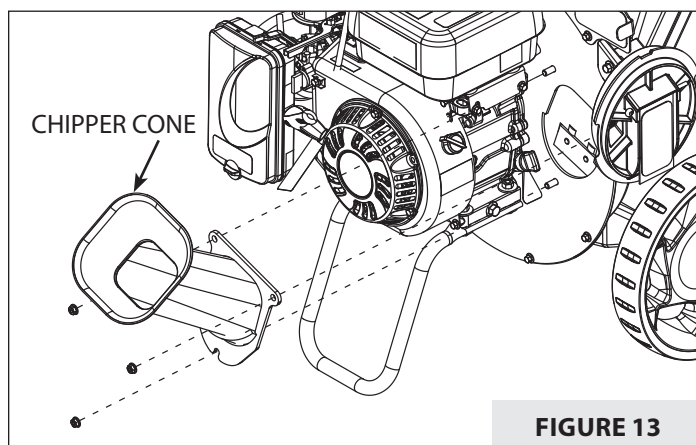

FIGURE 13
2. Remove the nuts securing the chipper cone to the front of the chipper. Remove the chipper cone (A) to access the knives. **SEE FIGURE 13.**